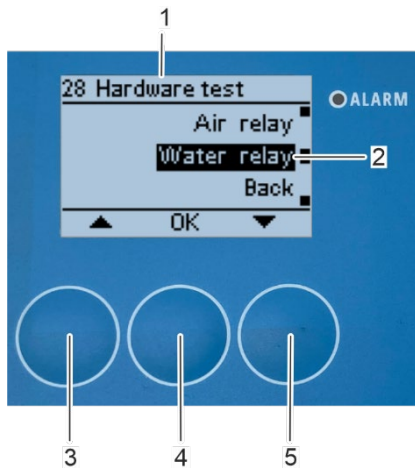

Fig. 149: Open submenu "water relay"
⇒ The "28 Hardware test" submenu (Fig. 149/1) appears again on the display, the air relay opens and compressed air no longer flows out of the compressed air nozzle.
1. Select the "Water relay" submenu (Fig. 149/2) with the arrow keys [up] (Fig. 149/3) and [down] (Fig. 149/5).
2. Confirm the selection with [OK] (Fig. 149/4).